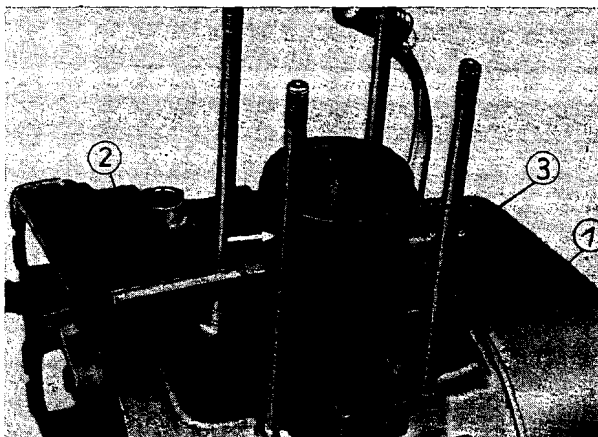

Fig. 70. Mounting the piston
Turn the piston rings so that the locating pins are between the ends of the rings (Fig. 70, long arrows) otherwise the piston rings will jam in the cylinder and break when the cylinder is mounted. With the cylinder liner slightly oiled, push the cylinder over the piston. The piston support (U) 22-50.412 props the piston. It is removed as soon as the cylinder fully covers the piston. Then fit the cylinder completely.